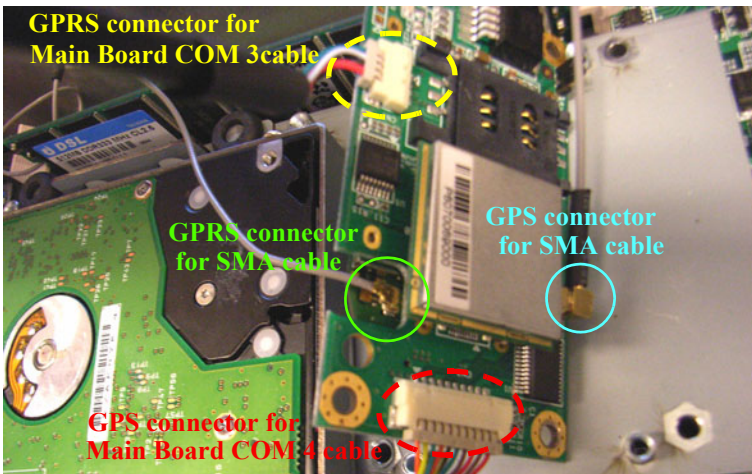

Figure 3.10: Connector on module and adapter board
2. Attach and tighten the antenna wire between the GPS module connector and the antenna hole on rear cover. Then, connect the serial cable on the adapter board to the COM3 port on the motherboard. See *Figure 3.10 and 3.11* below.
3. Tighten the wire between the GSM/GPRS module connector and the antenna hole on the rear cover. Connect the cable on the adapter board with the COM4 port on motherboard. (See *Figure 3.10* above for close location of the connectors.)